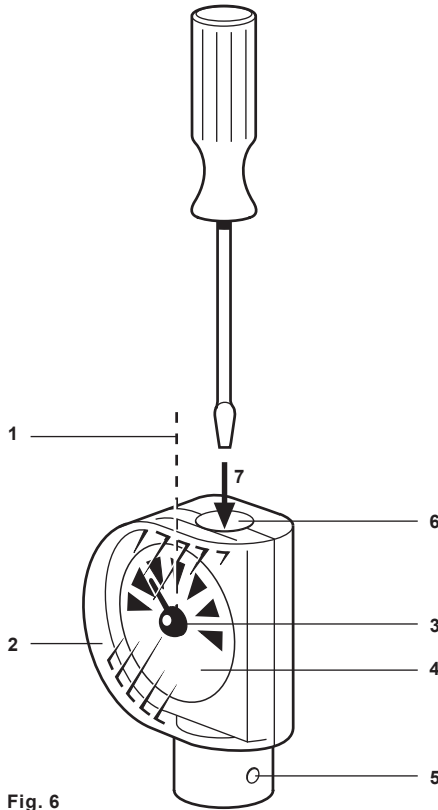

Fig. 6
For the following instructions you should make reference to Figure 6. The sensor should be set on site to the midway mark (1). Make any adjustments to the desired setting with a suitably sized screwdriver engaged in the adjustment drive (7) on the end of the indicator dial. Turning clockwise will lower the temperature, anticlockwise will increase it. After setting the plant to work, compare the thermometer reading with the scale reading on the temperature control reading.